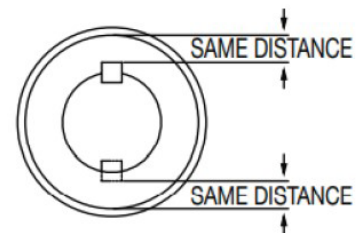

Figure 23 - Motor Slide Installation
5. Install the v-belt sheaves according to the manufacturer's instructions. Slide the motor slide plate as needed during the tensioning of the belts. After the motor has been moved to the final position during belt tensioning, slide the motor slide plate to clear the motor shaft and key equally around the shaft opening in the motor shaft guard. Rotate the motor shaft, if possible, to ensure the key does not contact the guard. See Figure 23. Tighten the motor slide plate mounting screws.